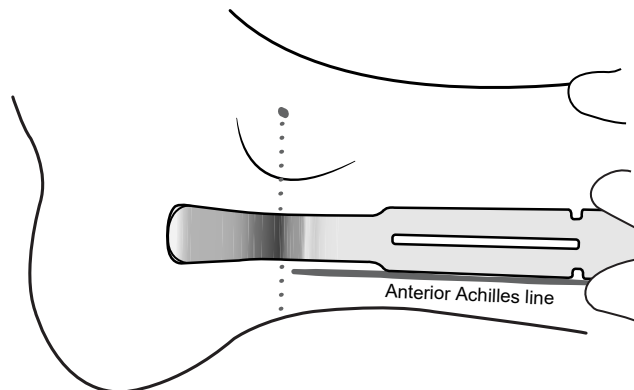

Figure 7. *Aligning the pocket dissector flat against the skin for marking*
5. Place the handle of the pocket dissector flat against the skin and align the edge of the handle along the line of the anterior Achilles tendon (Figure 7).
Note: A dotted line may be drawn between the medial malleolus and the Achilles tendon to aid in lining up the base of the pocket dissector blade (Figure 7).
6. Keeping the handle of the pocket dissector flat against the skin, align the base of the blade level with the mark of the medial malleolus (Figure 7).